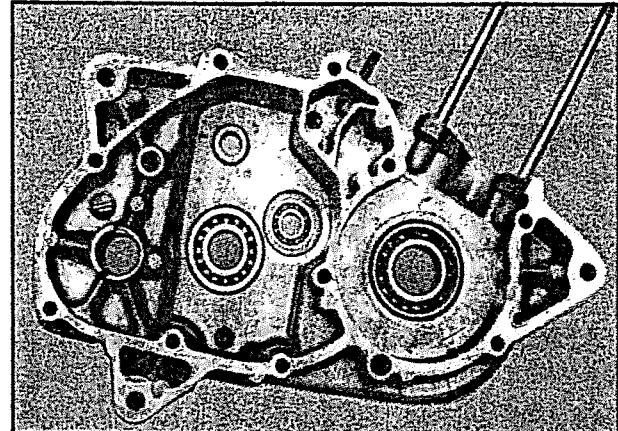

Fig 3.50
- Use the following special tools to remove the bearings and drive shaft bush from the crankcase halves (fig 3.50 to fig 3.53)